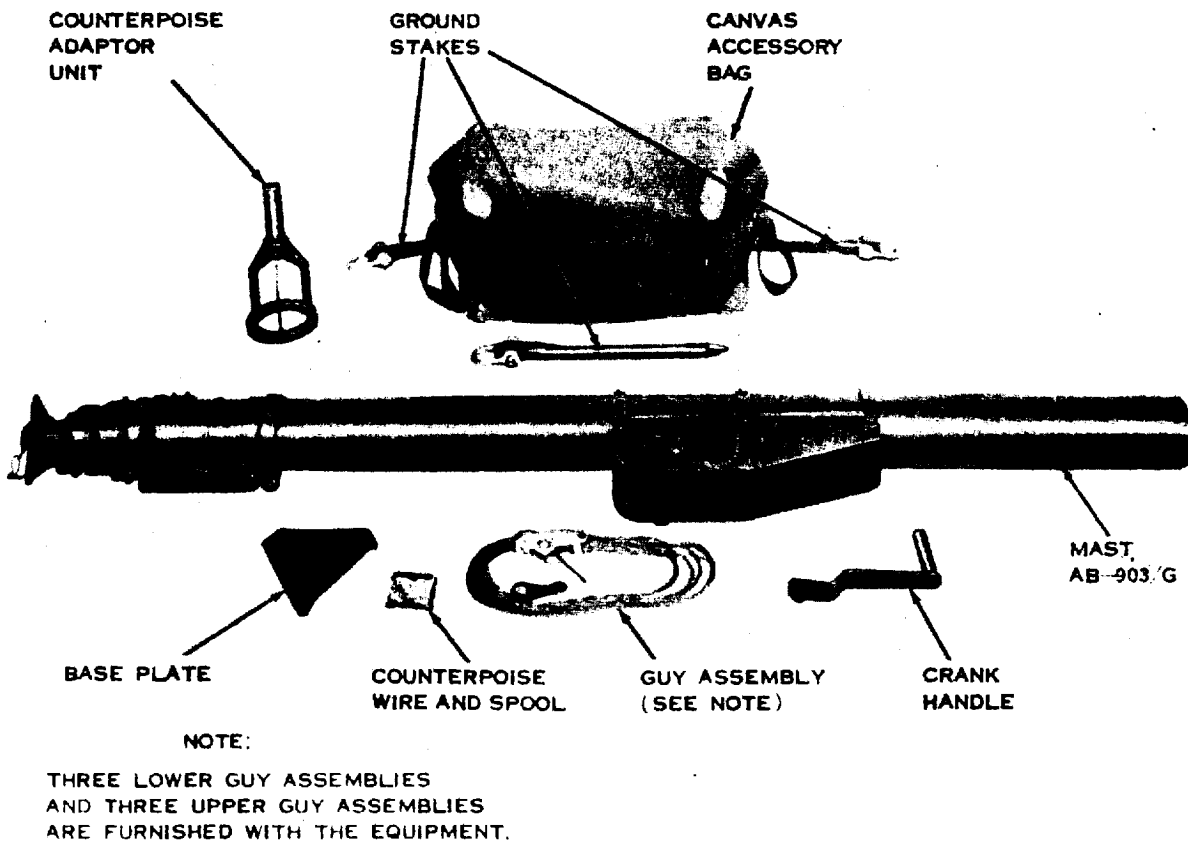

Figure 1-3. Mast AB-903/G and ground-mounting components.
b. Before erecting the mast, position the base plate on the mast. Set the base plate (fig. 1-3) firmly on the ground at the desired mast location so that the bent corners dig into the ground.